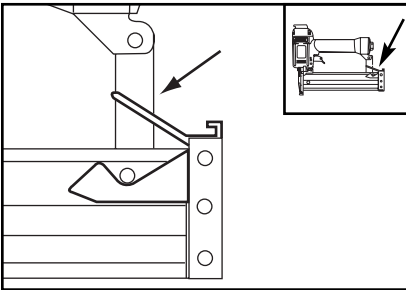

Figure 2. Releasing magazine latch.
2. Push the magazine latch in the direction shown in **Figure 2**.